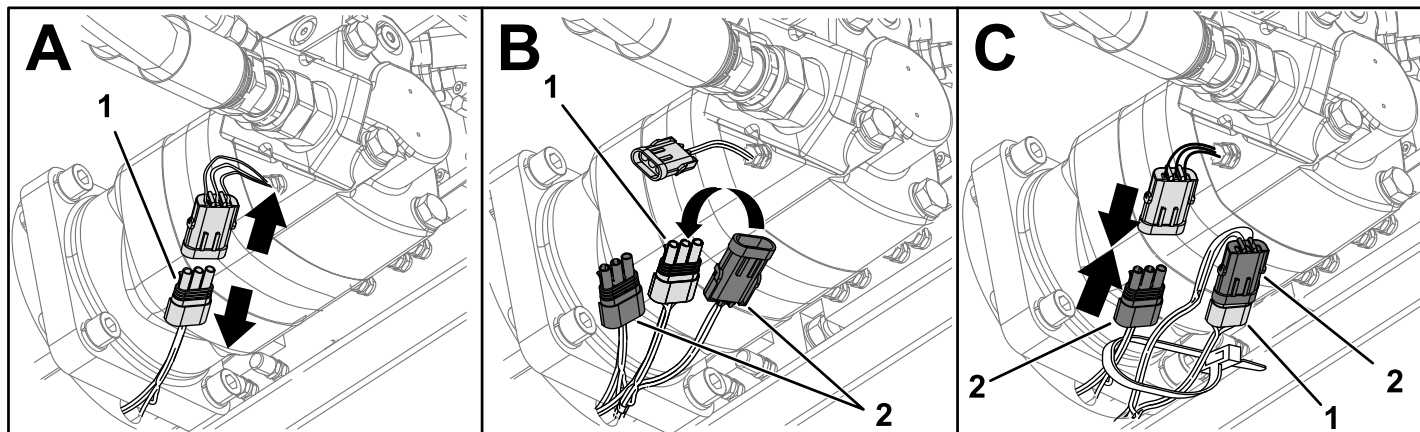

Figure 15
1. Disconnect the current harness (Box A of Figure 15).
2. Connect the current harness to the new harness (Box B of Figure 15).
3. Connect the new harness to the mud pump sensor (Box C of Figure 15).